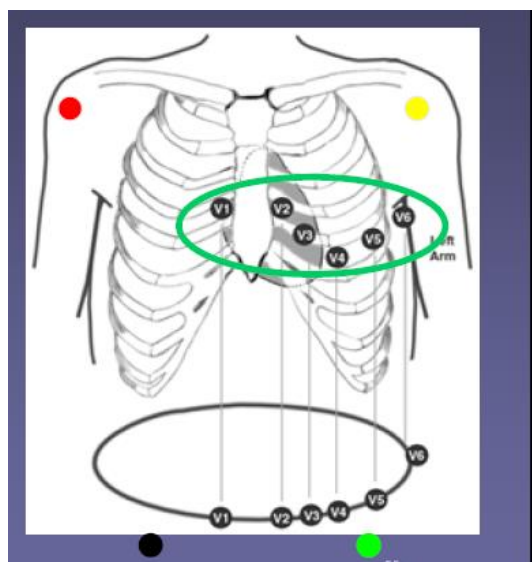

Figure 7.3: 10 electrode placements in 12 lead ECG system
In conventional 12 lead ECG machine 10 electrodes are used to measure the ECG of the patient from 12 different angles. From these 10 electrodes four of them are limb electrodes and the remaining are chest electrodes. The placement of the four limb electrodes is on the right arm (RA), right leg (RL), left arm (LA) and left leg (LL). The placement of the remaining six electrodes is on the intercostal chest lines of patient skin. As shown in figure 7.3. , in 12 lead ECG system, a total of 10 electrodes will be placed on the patient skin. Note that the electrode on the right leg (RL) has a zero potential and used as a ground electrode.